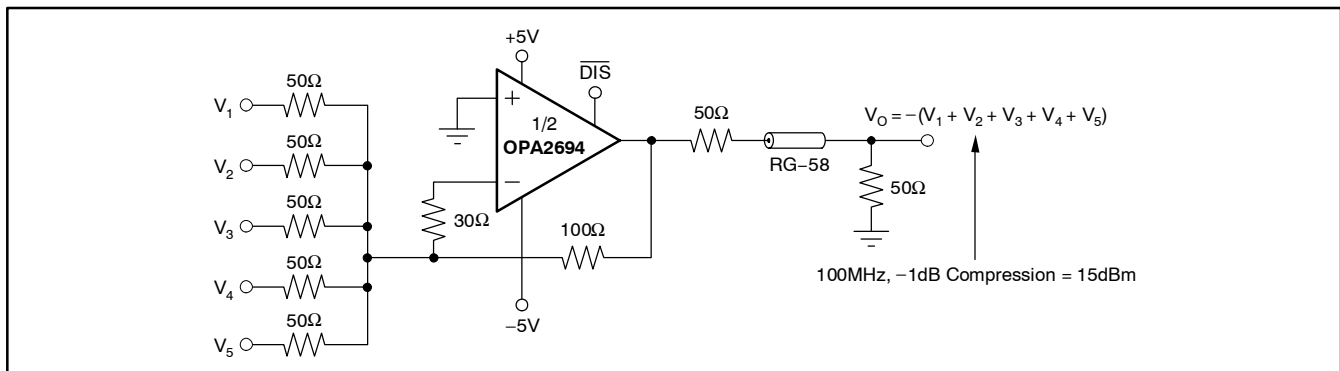

Figure 4. 200MHz RF Summing Amplifier
gain), wideband inverting summing stages may be implemented using the OPA2694. The circuit in Figure 4 shows an example inverting summing amplifier, where the resistor values have been adjusted to maintain both maximum bandwidth and input impedance matching. If each RF signal is assumed to be driven from a 50Ω source, the NG for this circuit will be  $(1 + 100\Omega / (100\Omega / 5)) = 6$ . The total feedback impedance (from VO to the inverting error current) is the sum of RF + (Ri • NG), where Ri is the impedance looking into the inverting input from the summing junction (see the *Setting Resistor Values to Optimize Performance* section). Using 100Ω feedback (to get a signal gain of -2 from each input to the output pin) requires an additional 30Ω in series with the inverting input to increase the feedback impedance. With this resistor added to the typical internal Ri = 30Ω, the total feedback impedance is 100Ω + (60Ω • 6) = 460Ω, which is equal to the required value to get a maximum bandwidth flat frequency response for NG = 6.
The total impedance going into the inverting input may be used to adjust the closed-loop signal bandwidth. Inserting a series resistor between the inverting input and the summing junction will increase the feedback impedance (denominator of Equation (2)), decreasing the bandwidth. This approach to bandwidth control is used for the inverting summing circuit of Figure 4. The internal buffer output impedance for the OPA2694 is slightly influenced by the source impedance looking out of the noninverting input terminal. High source resistors will have the effect of increasing  $R_i$ , decreasing the bandwidth.